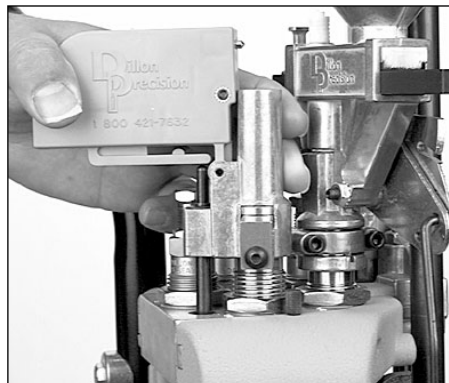

FIG 104
I. Station 3 – Installation of the Powder Check System FIG 104: